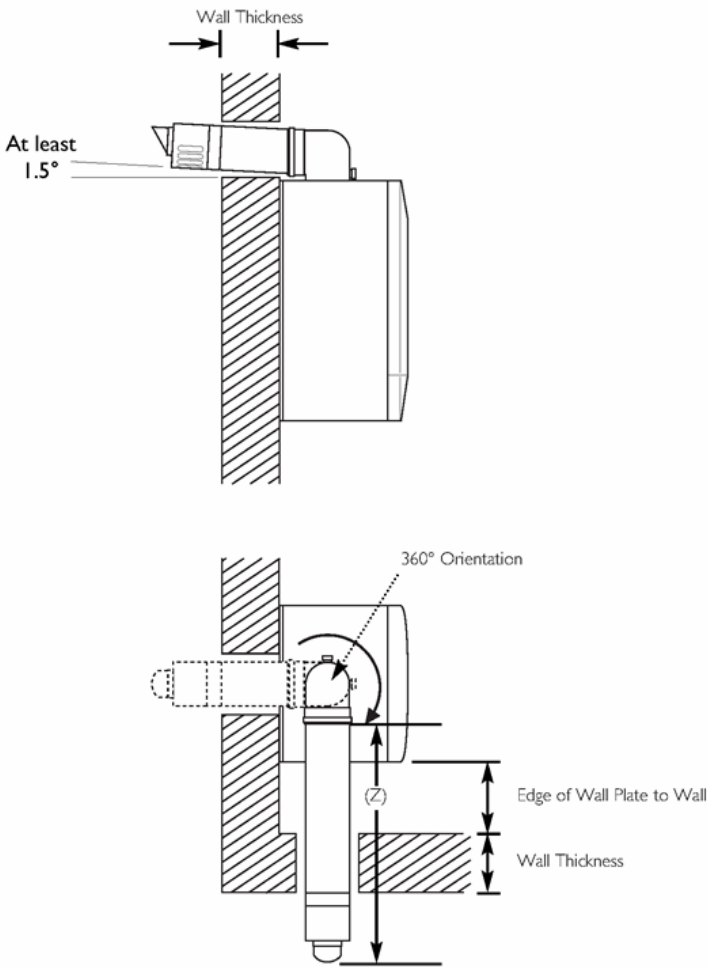

Fig. 26
2. For rear exit - measure the wall thickness (Fig. 26) and to this dimension add 181mm. This dimension to be known as (X). i.e.
4. For side exit - measure the distance from the edge of the wall plate to the inner face of the wall (Fig. 26) and to this dimension add the wall thickness + 250mm. This dimension to be known as (Z). i.e.